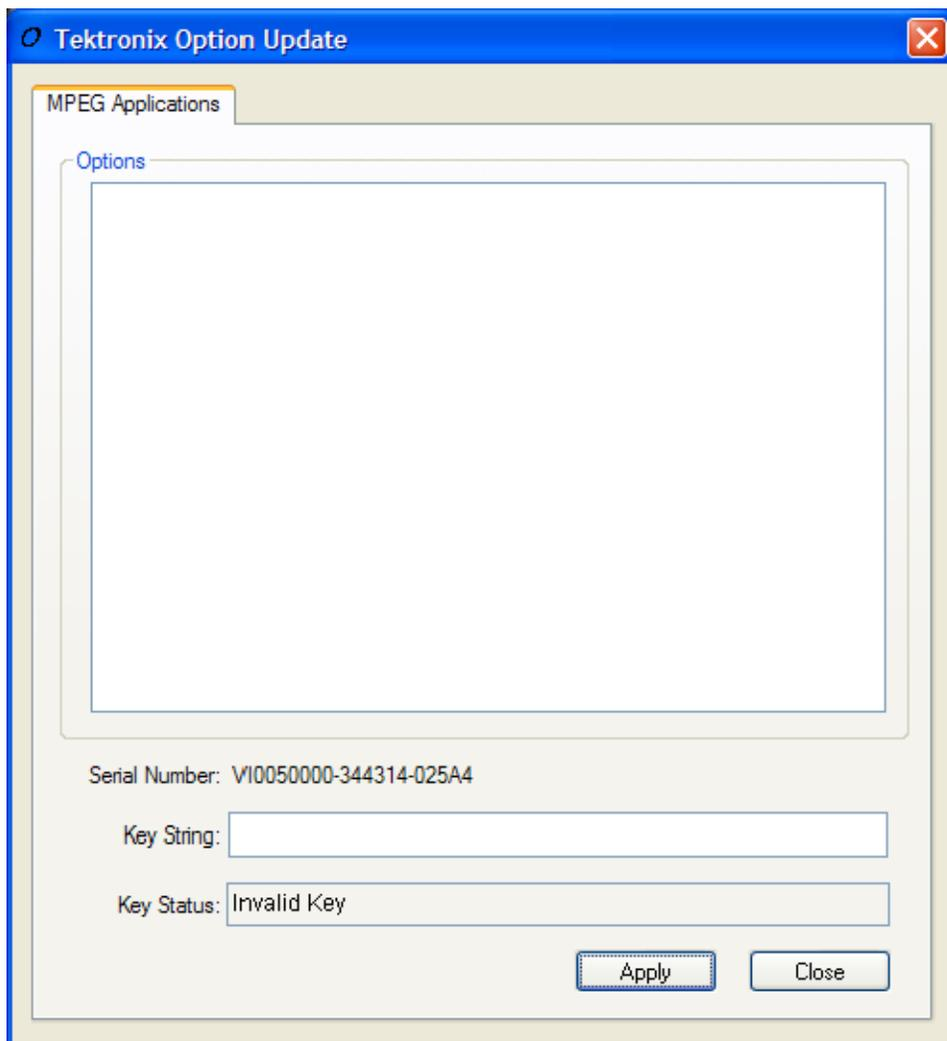

Figure 23: Tektronix Option Update Wizard - Initial view
13. After the unit has completed the start-up process, start the Tektronix Option Update wizard by selecting **Start > Programs > Tektronix MTS400 > OptionKey Wizard**. The Option Update window should open, as shown in Figure 23.